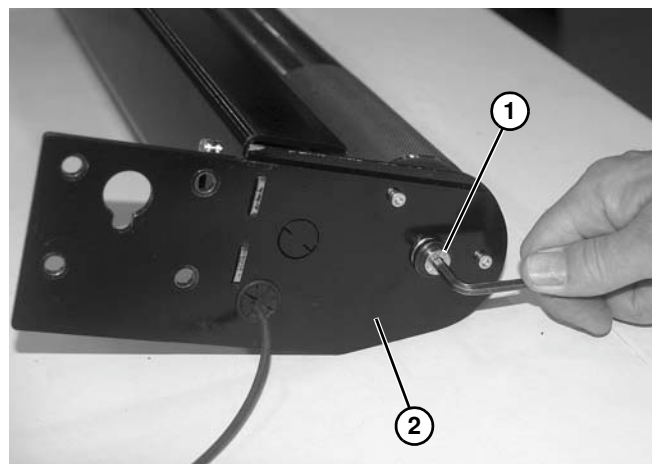

Figure 201
9. On motor mounted end, remove screw (**Figure 201, item 1**) securing cover plate (**Figure 201, item 2**) on spindle assembly.